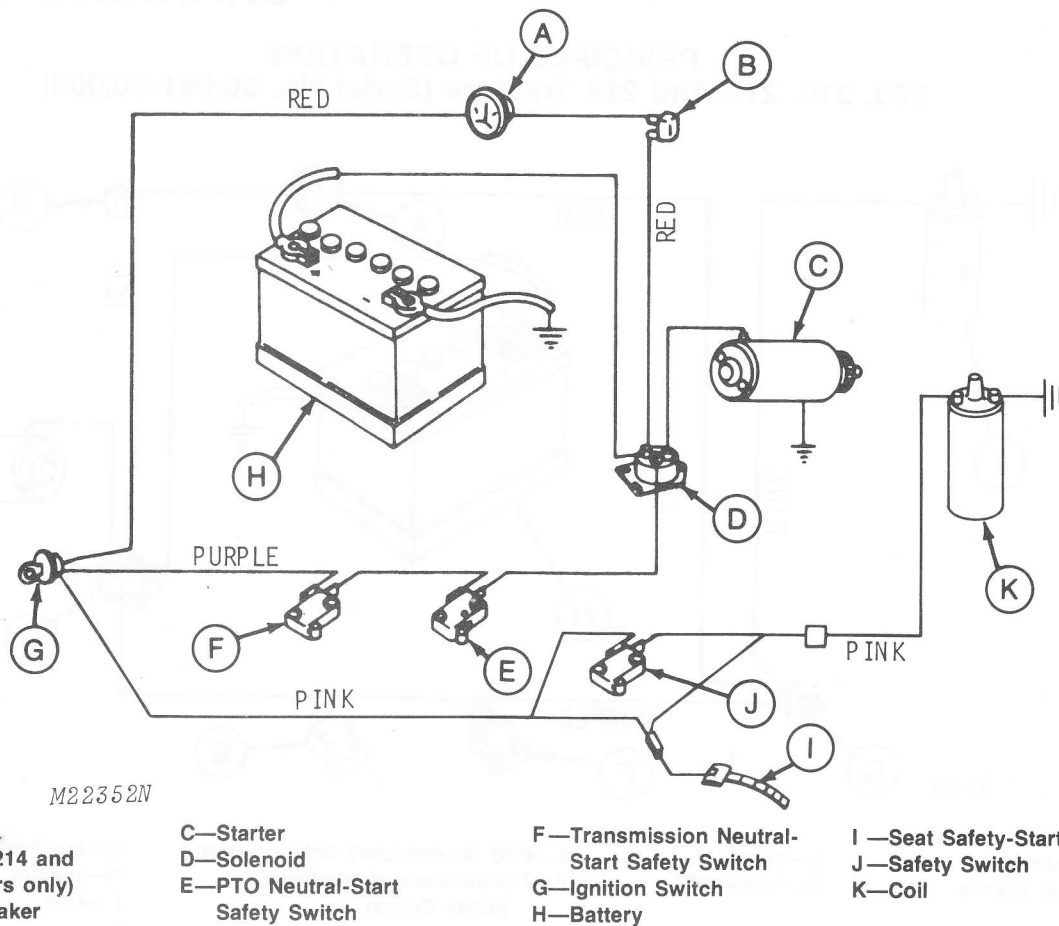

Fig. 2-Cranking System Components
*NOTE: On 208 Tractors the yellow lead wire for extra equipment headlights is removed from the ignition switch accessory terminal and taped to the wiring harness, Fig. 2. If the lead is used, be careful to keep lead away from heat or moving parts.*
The cranking system on 208, 210, 212, 214 and 216 Tractors (Serial No. 70,001-190,000), Fig. 2, consists of a 12-volt battery (H), solenoid (D), circuit breaker (B), key switch (G), three neutral-start safety switches (E, F, and I), and a permanent magnet starter motor (C).